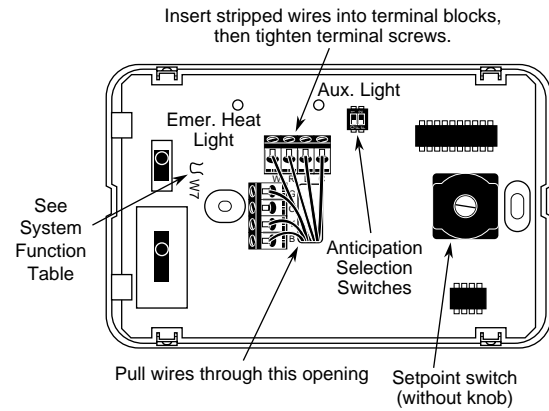

Figure 3. Thermostat base with typical wiring
2. Using needle-nose pliers, insert wire into correct terminal block opening (see figs. 3 and 4).
\* In Emergency Heat Mode, fan may be disabled, if required, by cutting jumper W7 (see fig 3).
3. Find the anticipation adjustment switches (see fig. 3).